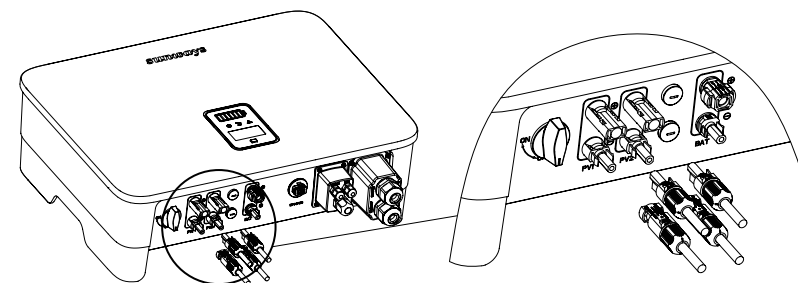

Figure 4-21
① Before assembling the DC connector, make sure that the cable polarity is correct.
② Use a multimeter to measure the voltage of the DC input string, verify the polarity of the DC input cable, and ensure that each string voltage is within 1000V.
⑦ Insert the positive and negative connectors into the inverter DC input terminals respectively, and a "click" sound represents the assembly in place, as shown in Figure 4-21: